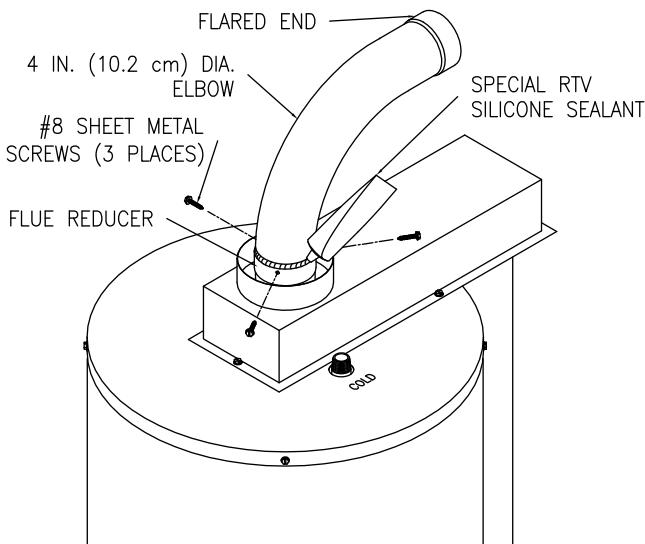

Figure 5
5. Insert the straight end of the four (4) inch (10.2 cm) diameter elbow into the flue reducer until firmly seated and oriented in the correct direction. With a $1/8$ inch (3.0 mm) diameter drill bit (not supplied), drill three (3) holes, 120° apart, through the flue reducer into the four (4) inch (10.2 cm) diameter elbow. Fasten with three (3) #8 sheet metal screws (supplied). Using the supplied special RTV silicone sealant, apply a sufficient amount to seal the joint (See Figure 5).